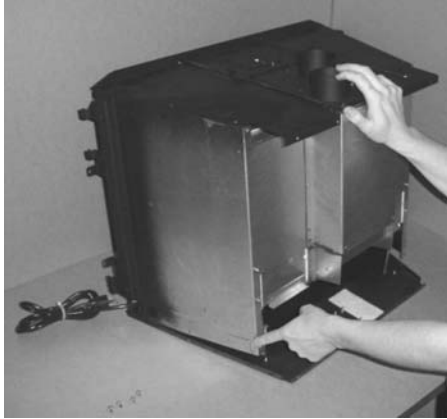
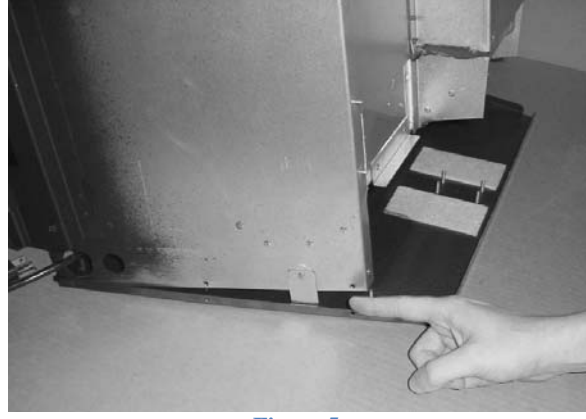

Figure 4
Figure 5
- The baseplate is attached to the insert with two rivets at the front. By pushing on the top of the insert you can tilt the insert upwards, allowing for better access to the area under the insert (see Figure 4). A bracket is provided on both sides to prop the insert up (see Figure 5). Rotate these bracket down.